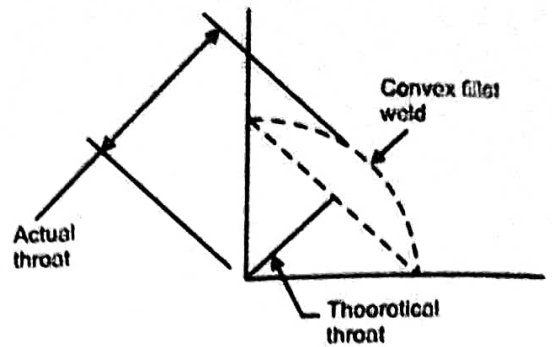

Fig. 5.51. Convex fillet weld
**Convex Fillet Weld :** A fillet weld having convex face (Fig. 5.51).